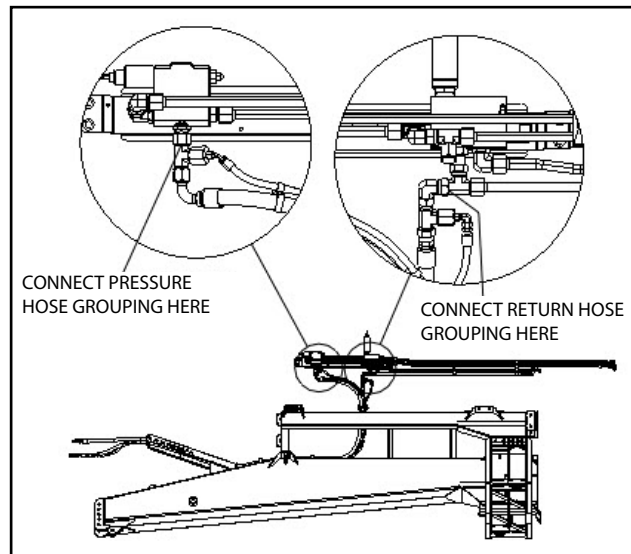

Figure 14 - Connect groupings
2. Connect pressure hose grouping and return hose grouping (Figure 14).